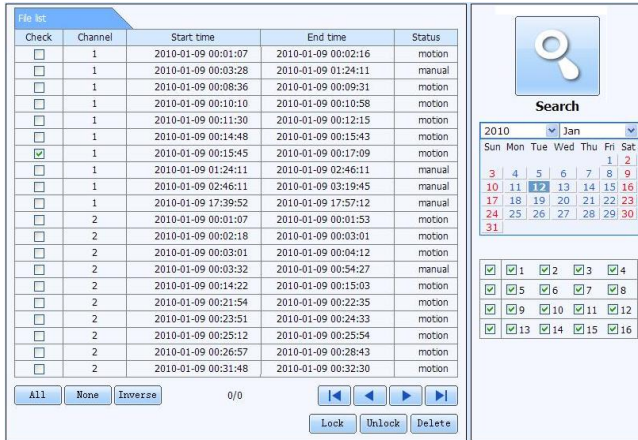

Fig 7-7 File Management Interface
- ① Go to Search→File Management interface. Refer to Fig 7-7.